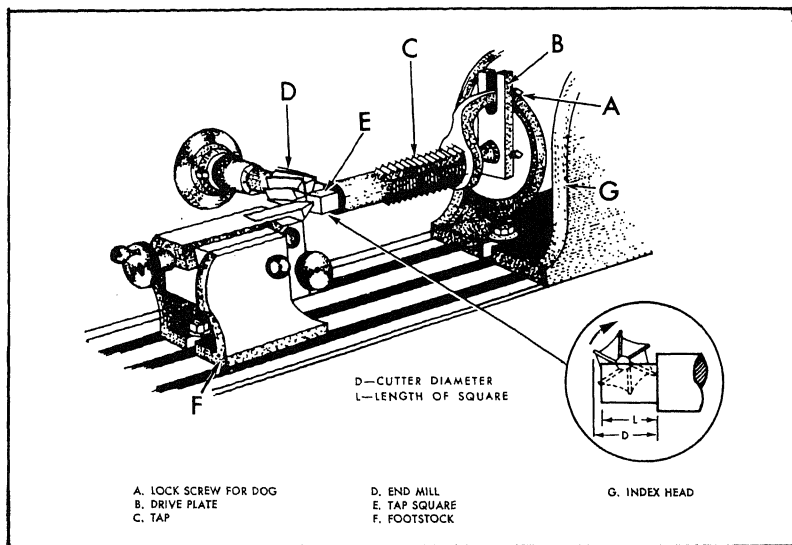

Figure 11-63.—Milling a square using an end mill.
of the work that will tend to tighten the chuck on the index head spindle. When you mount work between centers, a dog rotates the work. The drive plate, shown in figure 11-63, contains two lock screws. One lock screw clamps the drive plate to the index center and ensures that the drive plate
3. Select and mount the desired end mill, preferably one whose diameter is slightly greater than the length of the flat you are to cut, as shown in figure 11-63.